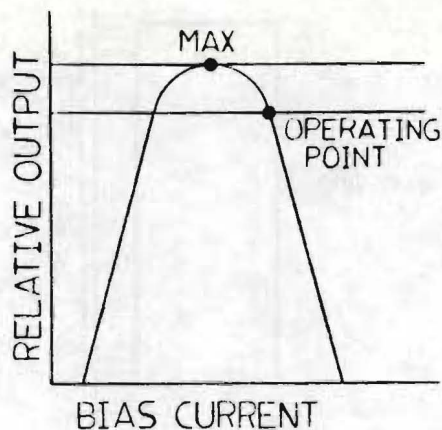

Figure 4-13, Overbias Point
- Place the slave into the READY mode and start the transport in the FORWARD condition. With the portable test head in place, adjust the appropriate bias level control to locate the bias peak. Continue turning the control clockwise until the overbias point recommended by the tape manufacturer is reached (see Figure 4-13).